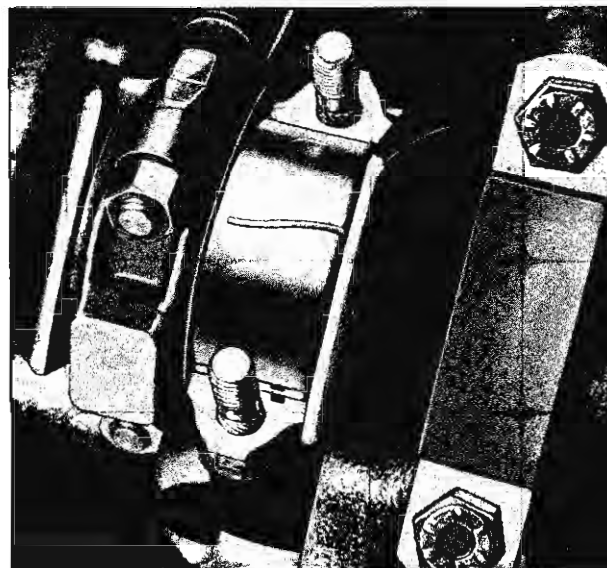

Fig. 97—Plastigage on Crankpin
3. Place a piece of Plastigage the full width of the bearing or crankpin (parallel to the crankshaft) (fig. 97).